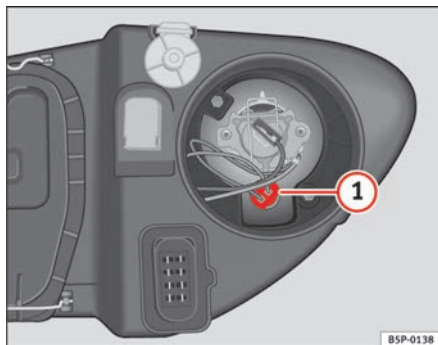

Fig. 165 Side lights
- Extract the lamp holder ⇒ fig. 165 ① outwards.